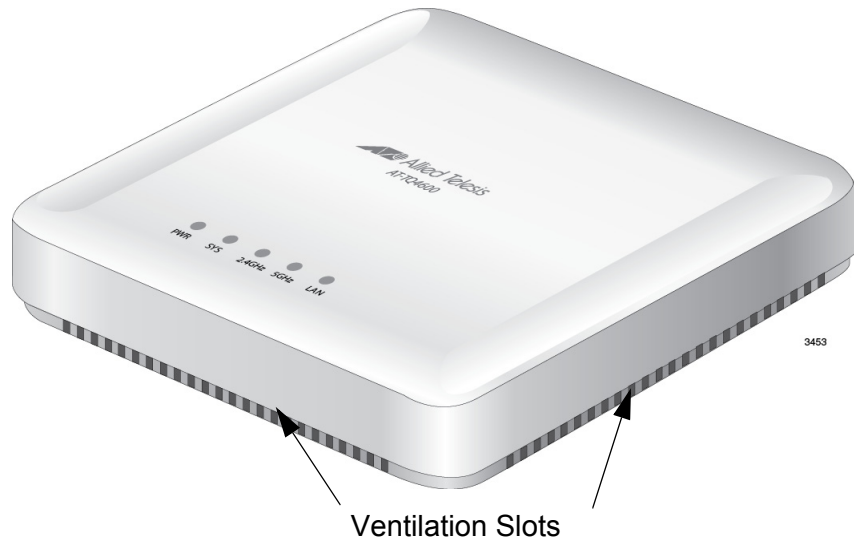

Figure 4. Ventilation Slots
- ❑ The selected location must not block the ventilation slots around the base of the unit. Refer to Figure 4.